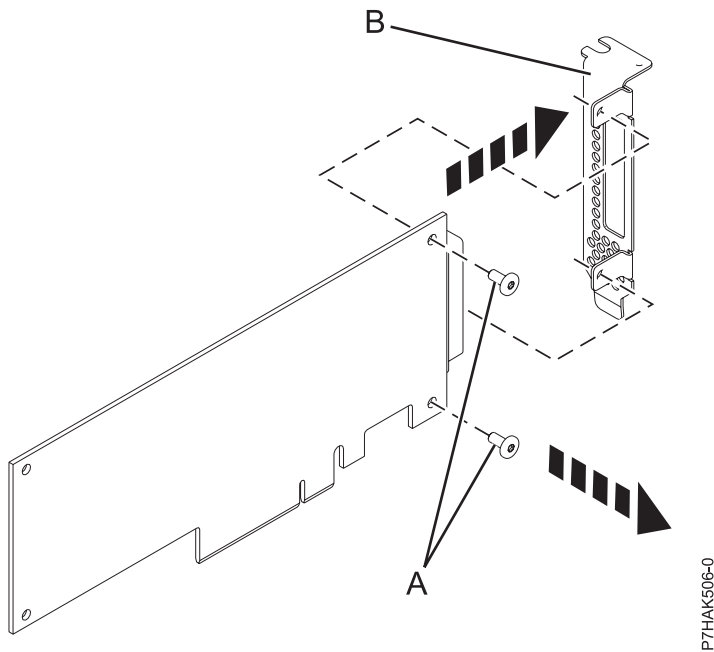

Figure 10. Removing the low-profile tailstock from a failed PCI adapter
4. Using a Phillips screwdriver, unscrew the two screws (A) that attach the tailstock (B) to the failed PCI adapter, as shown in Figure 10.